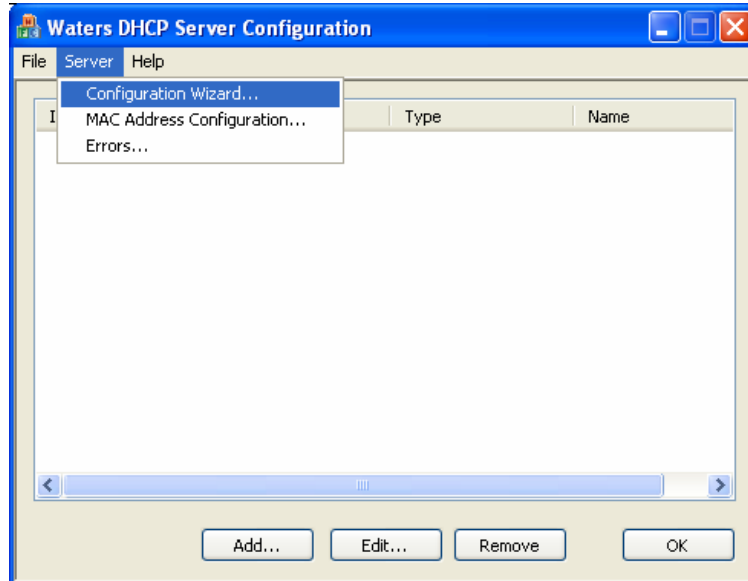

Figure 2: Waters DHCP Server Configuration Page
4. Click the **Configure DHCP** button. The Waters DHCP Server Configuration page appears (Figure 2).